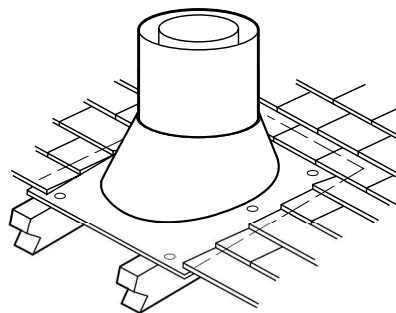

Figure 27
Step 6. Secure flashing by nailing along the perimeter into roof using 8d nails. If shingled roof, slide upper end and sides of roof flashing under shingles (trim if necessary), seal the top and both sides of the flashing to the roof with roof caulking. Cover nail heads with roof caulking (Figure 27).